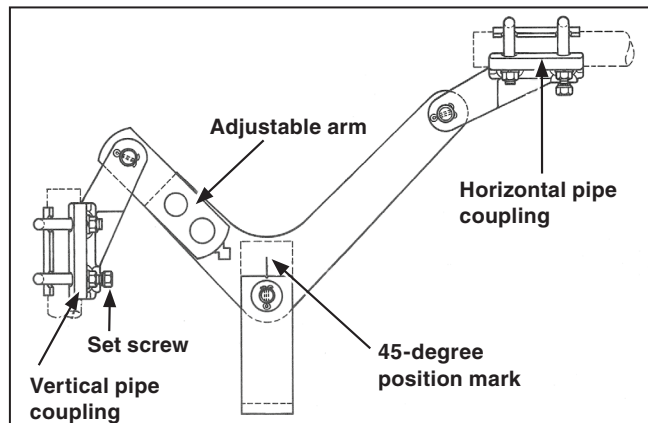

Figure 5. The bell-crank group.
**STEP 6.** Make sure the bell-crank is held in the 45-degree position. The bell-crank and bell-crank bearing have indexing ridges to facilitate alignment. See Figure 5.
**STEP 8.** Install the horizontal pipe sections connecting the switch poles and the bell-crank assembly. See Figure 5 on page 10. Follow the directions in the “Installing Pipe Couplings with Piercing Set Screws” section.
**STEP 9.** Make sure the bell-crank is held in the 45-degree position. The bell-crank and bell-crank bearing have indexing ridges to facilitate this alignment. See Figure 5 on page 10.